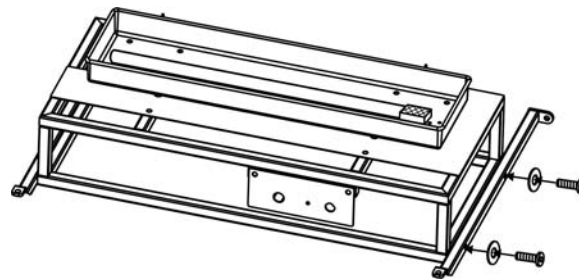

Figure 7
7. Attach the two support bars to the firepan/burner assembly by using two 1/4"x30 mm bolts and washers as shown in Figure 7. Hand tighten only.